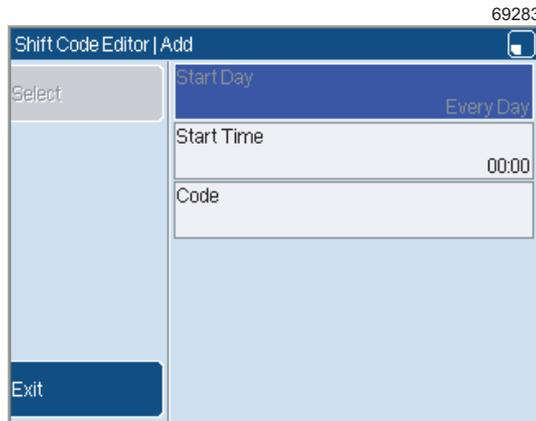

Figure 6. Add page: Daily shift code
- To insert the first item, press the **Add** key. The printer displays the **Add** page (Figure 6). If you selected a Daily shift code, the **Start Day** option is not available.